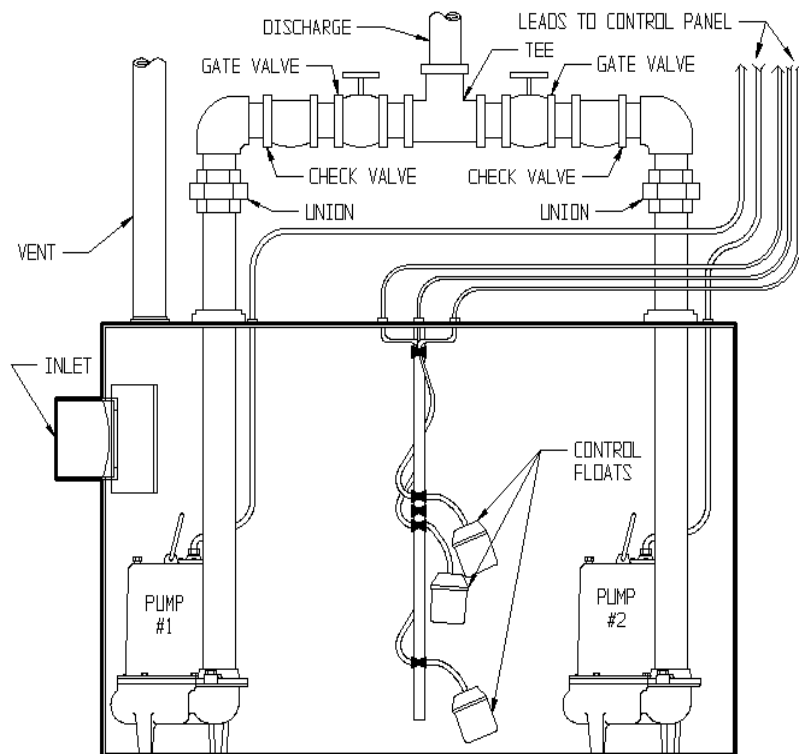

Fig. 3 – Typical Installation Duplex System
B. Duplex (Two Pump) Systems (see Fig. 3): Set both pumps in place in the bottom of the basin. The duplex control used will include 3 or 4 floats that will either be tethered to one of the discharge pipes or to an independent rod hung from the cover. Follow the instructions provided with your duplex control device. Minimum pump turn off level should not be set below 6". Make sure all floats move freely. Connect an individual discharge pipe to each pump. **IMPORTANT: Do not reduce the discharge pipe size below that which is provided on the pump.** Sewage pumps should not be reduced below 2". In some applications, it may be necessary to increase the pipe size to reduce friction losses. Contact Liberty Pumps or other qualified person if you have any questions regarding proper pipe sizes and flow rates. To eliminate fluid recycling in duplex installations, it is necessary to have a check valve on each discharge line prior to tying the two discharges into one common line. Depending on the height of your basin, the check valves may either be installed inside or outside the